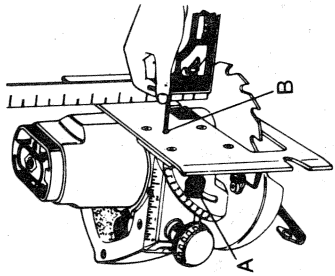

FIGURE 12
2. Place saw on blade side (Figure 12). Retract blade guard.
3. Loosen quadrant knob "A". Figure 12. Place a right angle against blade and bottom of shoe.
4. Adjust hex socket stop screw "B". Figure 12, with a 5/64" Allen Wrench so that shoe will stop at 90°.